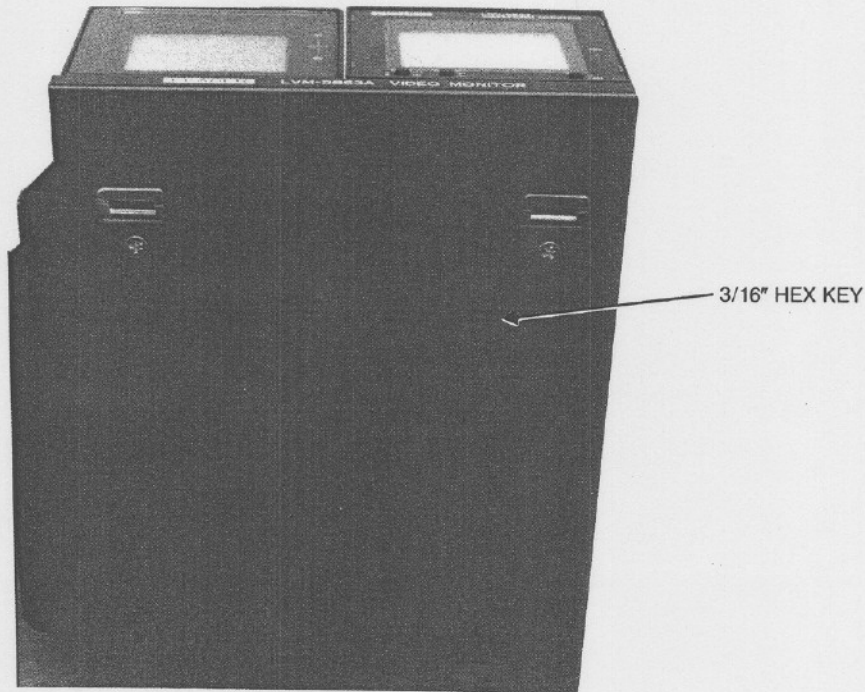

Figure 4-1. Remove screw to release the WFM from the mounting plate
2. Remove the 1/4-20 hex head cap screw labelled A in Figure 4-1. Use a 3/16" hex key.